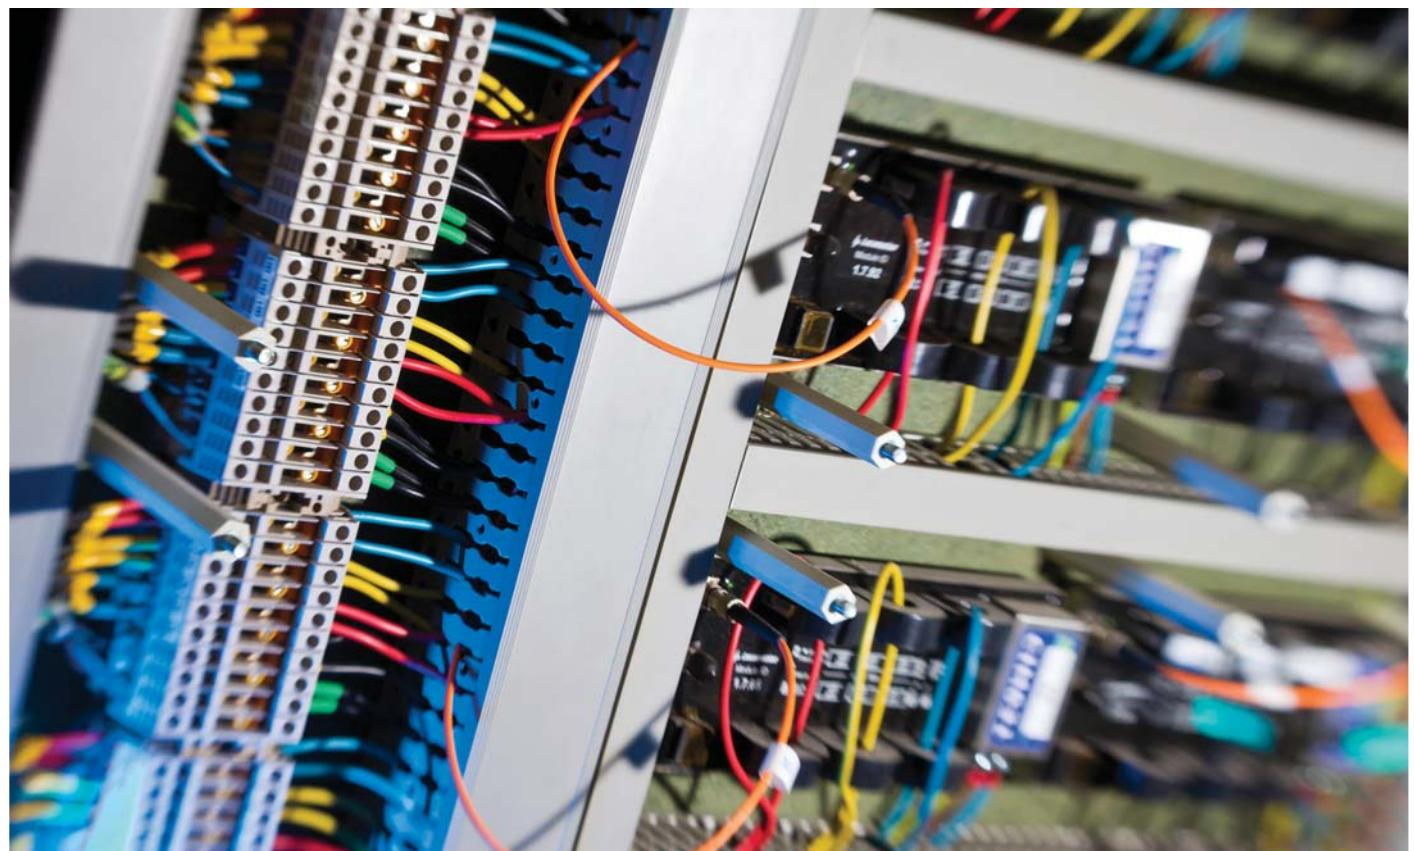

Figure 1: SASensor
1. You are probably all familiar with the Doppler effect (the well-known change in frequency caused by the difference in velocity between source and observer noticed when a police car approaches you), but you might not be aware of the so-called micro-Doppler effect. The micro-Doppler basically describes an object as the superposition of different targets, each moving with their own velocity, and hence each inducing their own micro-Doppler shift. You can divide a human body in a discrete number of body parts, each following a different periodic movement and each with a different velocity. This means that each body part induces a time-varying micro-Doppler frequency. In figure 1 is schematically shown how the body is modeled.
3. A spectrogram is a way of processing a Continuous Wave (CW)-radar signal into a time-varying representation of the spectrum, which captures the micro-Doppler effect. Again, I'll spare you the details, but